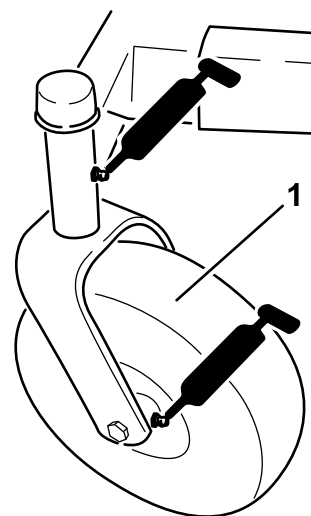
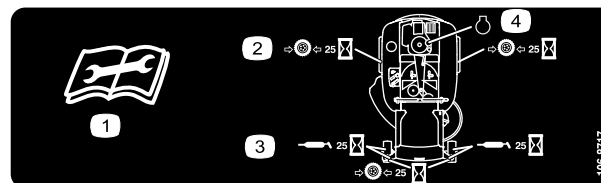

Figure 22
Figure 23
3. Clean the grease fittings (Figure 22 and Figure 23) with a rag. Make sure to scrape any paint off of the front of the fitting(s).
4. Connect a grease gun to each fitting (Figure 22 and Figure 23). Pump grease into the fittings until grease begins to ooze out of the bearings.